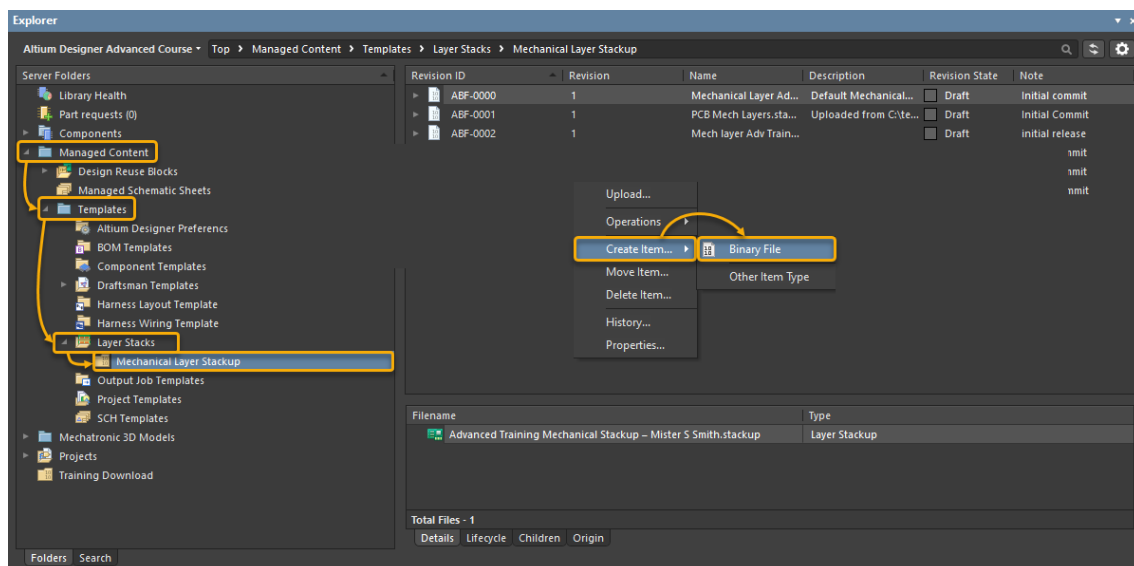

Figure 13. Create new Item for a Mechanical Layer stack
55. Navigate to the branch *Managed Content - Templates - Layer Stacks - Mechanical Layer Stackup*. Use Figure 13 as reference.